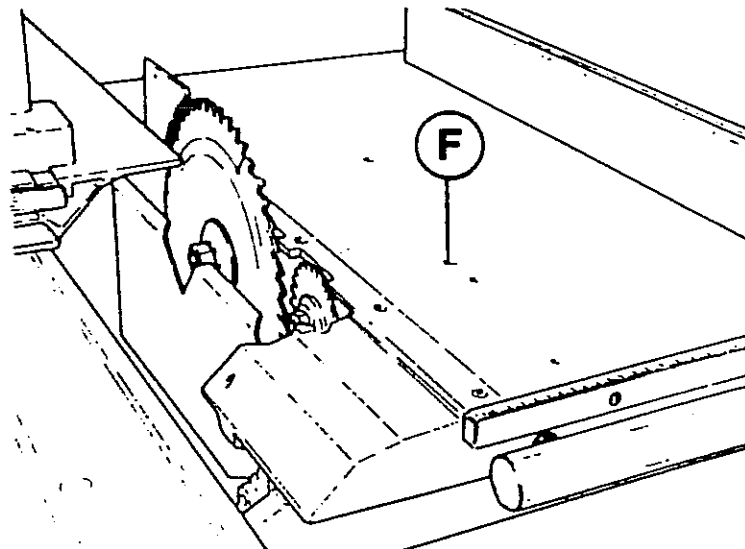

Fig.28
- fit the 6 mm wrench (supplied with the machine) into hole (F fig.28)